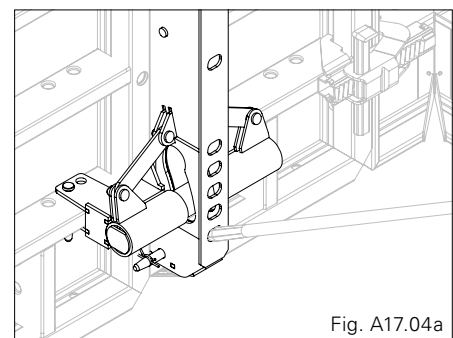

Fig. A17.04a
4. Bring shaft element into shuttering position by means of a crowbar. Press formwork lever downwards. (Fig. A17.04a + A17.04b)